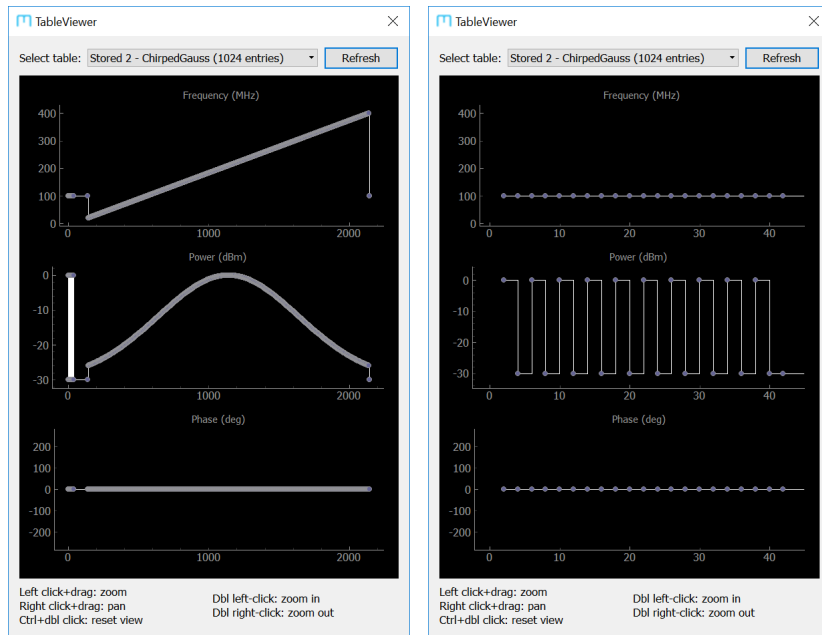

**Figure 4.6:** Diagnostic information about the connected ARF unit, which should be sent to MOGLabs for analysis if there is a problem with the device.
**Diagnostics** Queries the unit for diagnostic information, which may be useful in assessing issues with the functionality of the ARF/XRF (Figure 4.6). When encountering a problem with the device, please run the diagnostics and click “save results”. Please send the resulting text file and a description of the problem to MOGLabs for analysis.